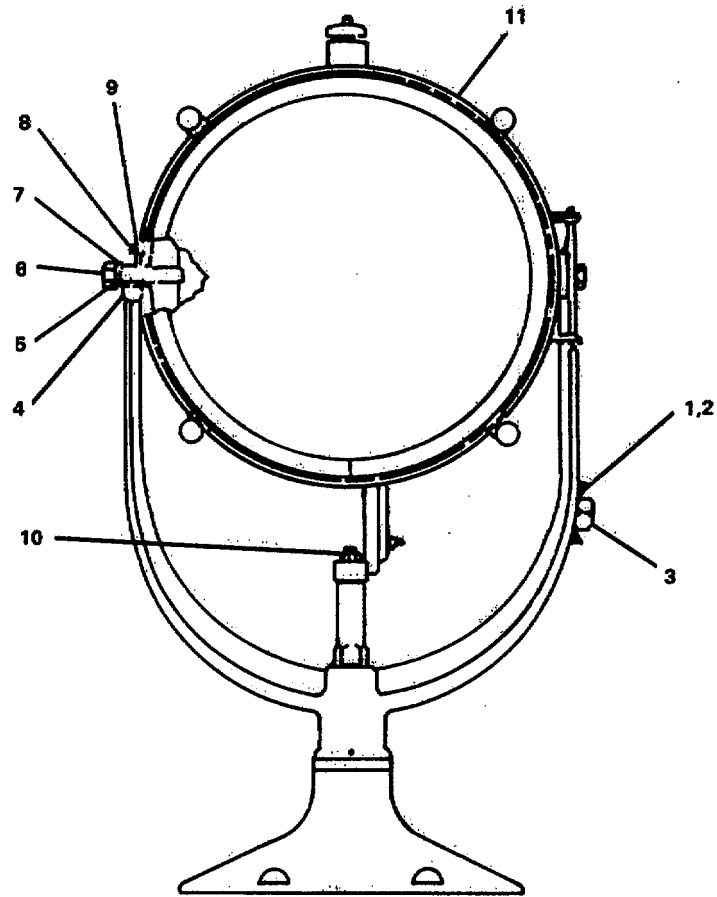

FIGURE 3-48. Drum Assembly Replacement.
- b. Remove hexagon capscrew (6, Figure 3-48), lockwasher (5), and flat washer (4).